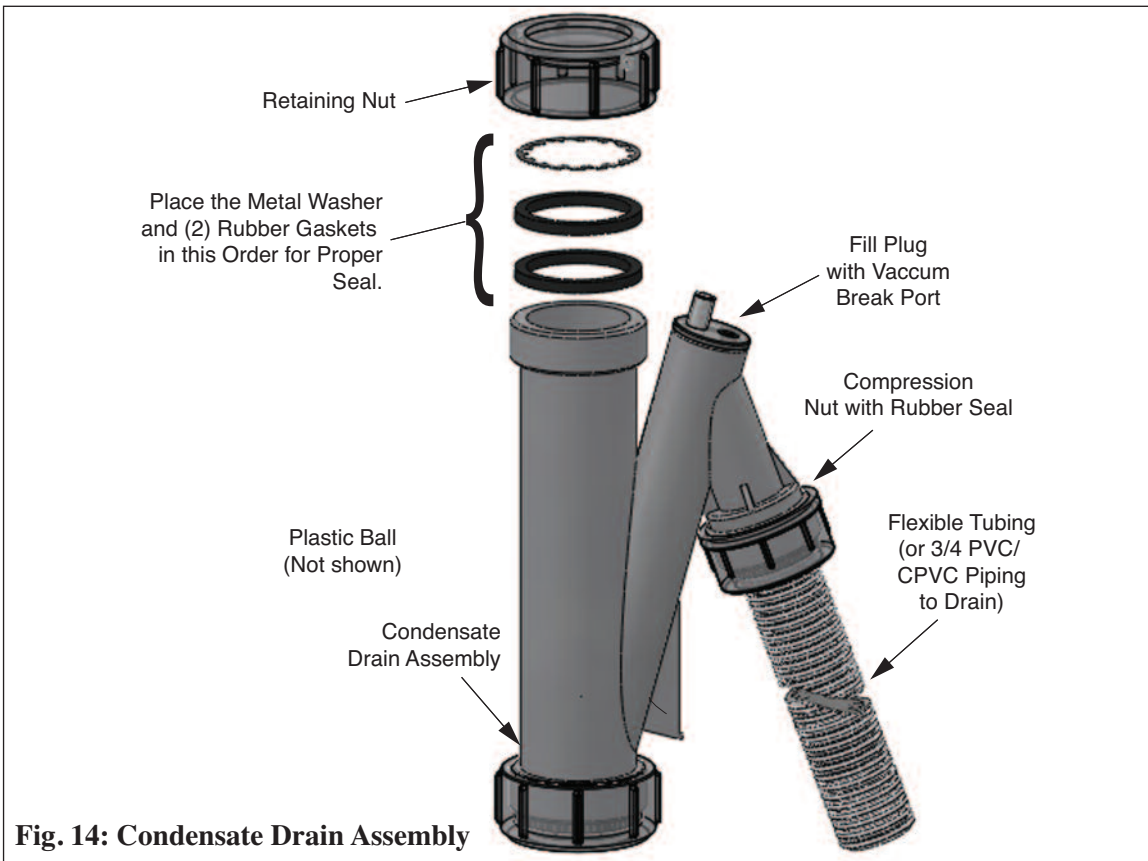

Fig. 14: Condensate Drain Assembly
1. Locate the condensate drain assembly and install as shown in Fig. 14.